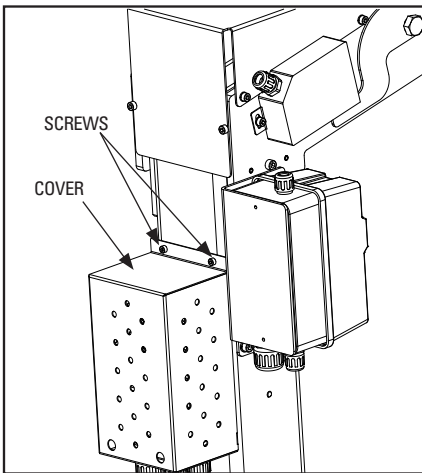

FIG.5
- Remove the (4) screws that secure the cover (see Fig. 5)